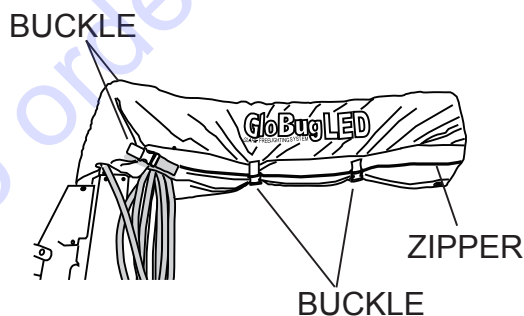

Figure 19. Zipping Balloon Cover
2. Cover the balloon and lampstand. Zip up the cover and fasten the 4 buckles (Figure 19).